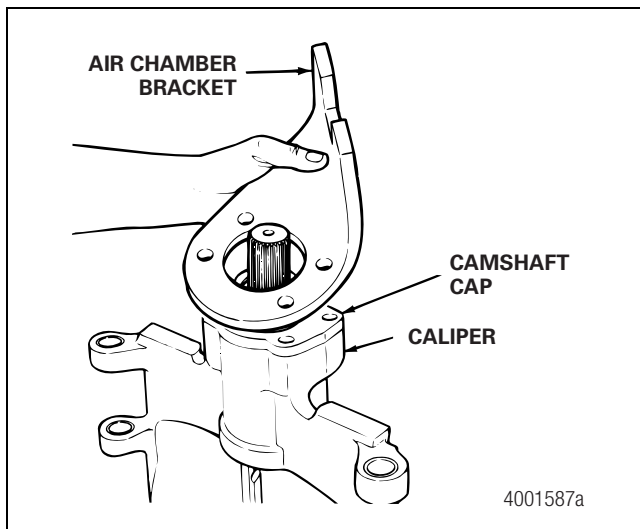

Figure 7.1
4. Remove the capscrews and washers that hold the camshaft cap and the air chamber bracket to the caliper. Remove the bracket. Figure 7.1.